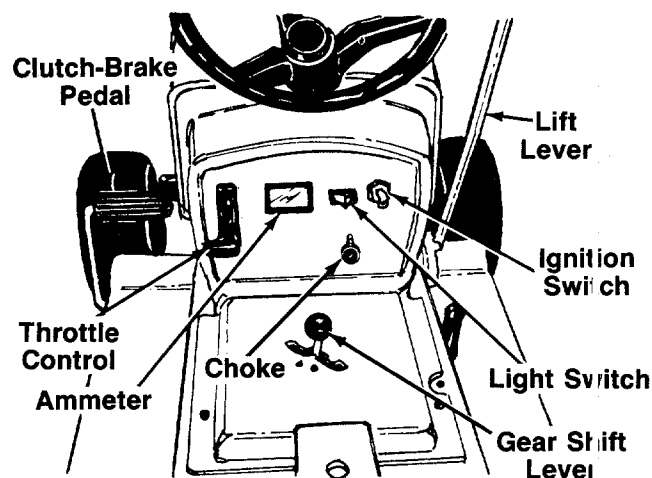

FIGURE 9.—Models 704 and 714 Shown
The throttle control is used to regulate the engine speed. To get maximum efficiency from cutting, the throttle should be in the FAST position when operating the mower. See figure 9.
The choke control is located on the dashboard and is operated manually. Details for the choke operation are covered in the separate engine manual packed with your unit. See figure 9.
The shift lever is located IN THE CENTER on the left side of the console and has three positions, FORWARD, NEUTRAL and REVERSE. See figure 9. The clutch-brake pedal must be depressed and the lawn tractor must not be moving when shifting gears. Do not force the shift lever. Release the clutch-brake pedal slightly to line up the shifting collar in the transmission. Then try to shift gears.
Turn the key to the START position to start the engine. When the engine is running, let the key return to the ON position. To stop the engine, turn the key to the OFF position and remove it to prevent accidental starting. See figure 9.
Push the light switch to turn on the lights. The lights will only operate when the engine is running. See figure 9.
The ammeter registers the rate of battery charge or discharge. The ammeter will register on the discharging side when starting the engine. It should register on the opposite side (charging) when the engine is running in the fast position until the battery is completely charged. With a fully charged battery or with the engine idling, the ammeter will not show a charge. See figure 9.
The clutch-brake pedal is located on the left side of the lawn tractor. Depressing the clutch-brake pedal part way disengages the clutch. Pressing the pedal all the way down disengages the clutch and engages the disc brake. See figure 9.
4. Set the throttle control in the FAST position. See figure 9.
6. Turn the ignition key to the START position. When the engine is running, let the key return to the ON position. See figure 9.